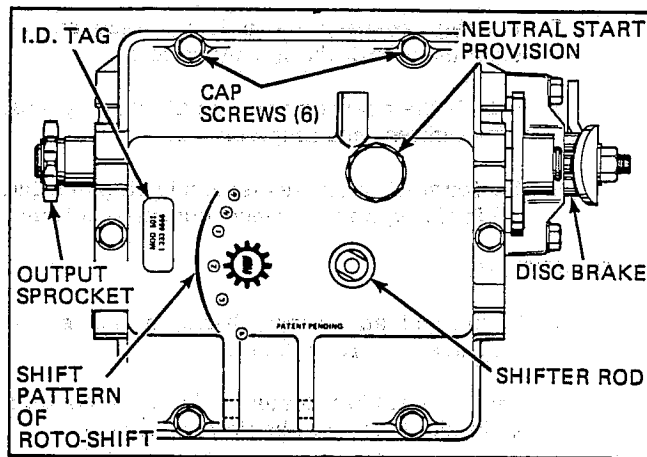

Figure 2-18
The model 500 series transmission is the first of the "Roto-Shift" variety to be produced by the Peerless Gear Division of Tecumseh Products Company. Capable of delivering 3, 4 or 5 speeds, depending on equipment manufacturer's specifications, the "500" will adapt itself to any conventional riding mower, lawn tractor or rear engine riding mower. Figure 2-18 is a 4 speed forward, 1 reverse with neutral start provision. Options available on the 500 include right or left hand output and disc brake. See Figures 2-18 and 2-19.
1. Clean outside surface of transmission. Position shift lever in neutral position as indicated by shift pattern. Remove shift lever. If installed, remove neutral start switch. See Figures 2-18 and 2-19.
3. Remove six cap screws that maintain cover to case. Remove cover. See Figure 2-18.